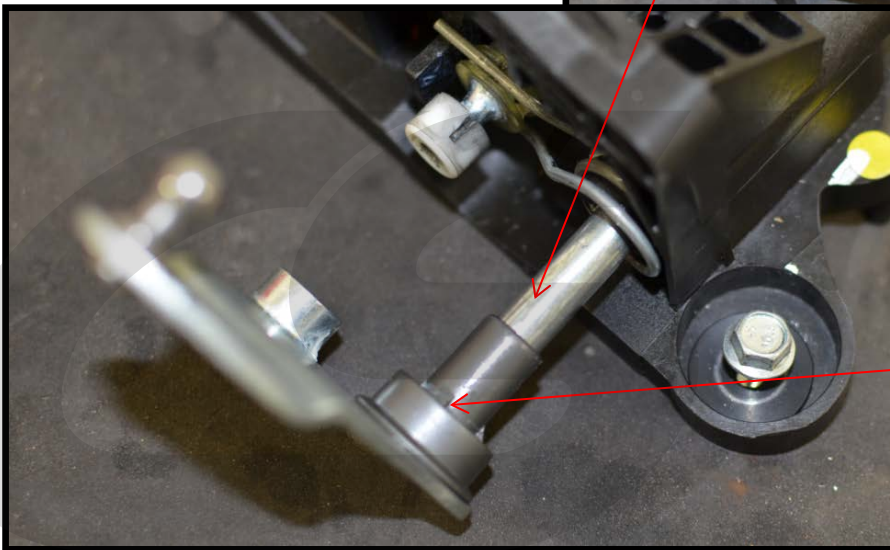

Figure 4b
- b) Remove the side actuator arm. With the plastic retaining clip removed, slide the side actuator arm out of the shifter housing (Figure 4b)